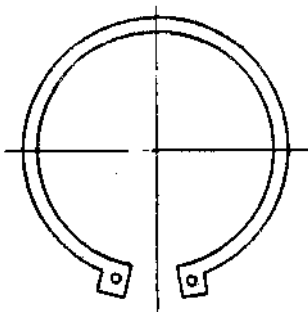

Fig.4.1.
4. The circlip shown in Fig. 4.1 is